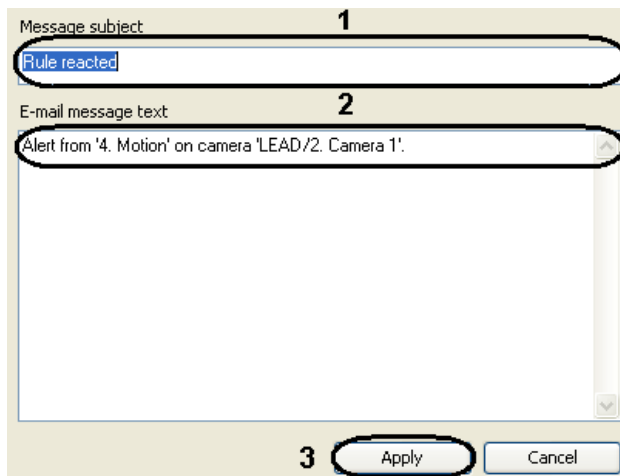

Fig. 6.4—33 E-mail message
5. In the **E-mail message text** field (see Fig. 6.4—33, 2), enter the text which should be sent in an E-mail message when the detector is triggered.
6. To close the window and save changes, click **Apply** (see Fig. 6.4—33, 3).